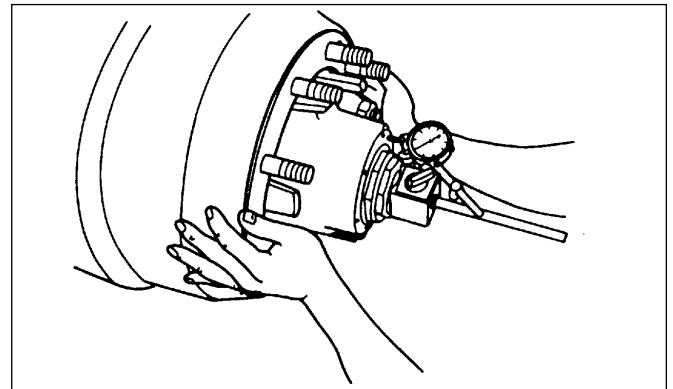

Figure 23. Measure the inward play
- b. Rotate the hub slightly in both directions while pushing the assembly inward until the reading does not change. Zero the dial indicator (Figure 23).